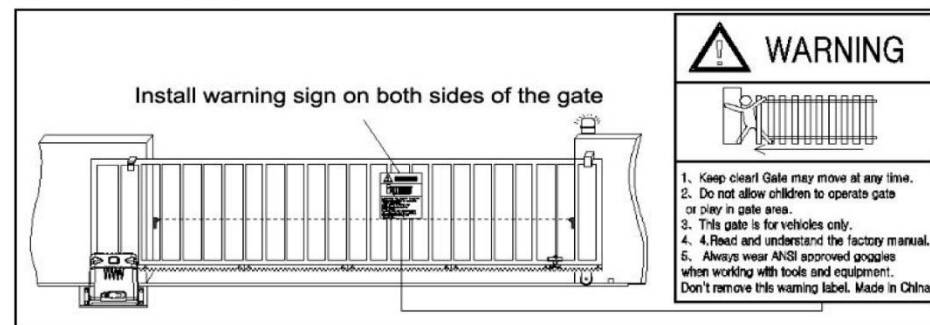

Fig 8
- Position at least one luminous signal indication device (blinker) where it can be easily seen, and fix a Warning sign to the structure (Fig 8).